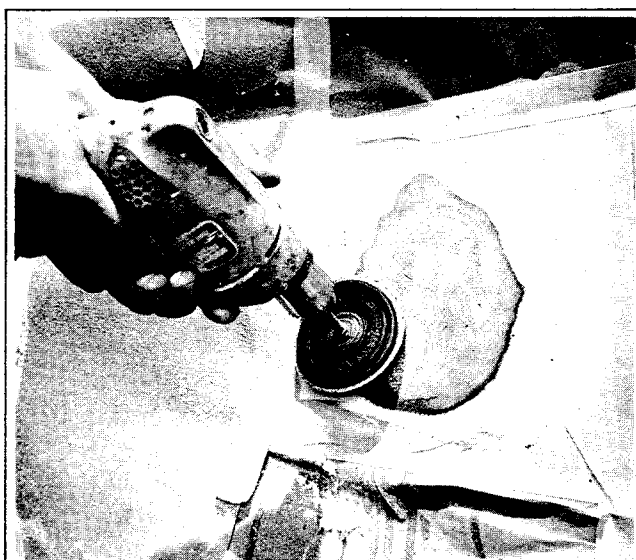

Figure 2-46. Bleeding Patch With Sander
10. Allow the patch to cure overnight; then sand with dry 80-grit paper on power sander. Smooth the patch and blend it with surrounding surface. If air pockets are present, puncture and fill with catalyzed resin. Let cure and re-sand. See Figure 2-46.